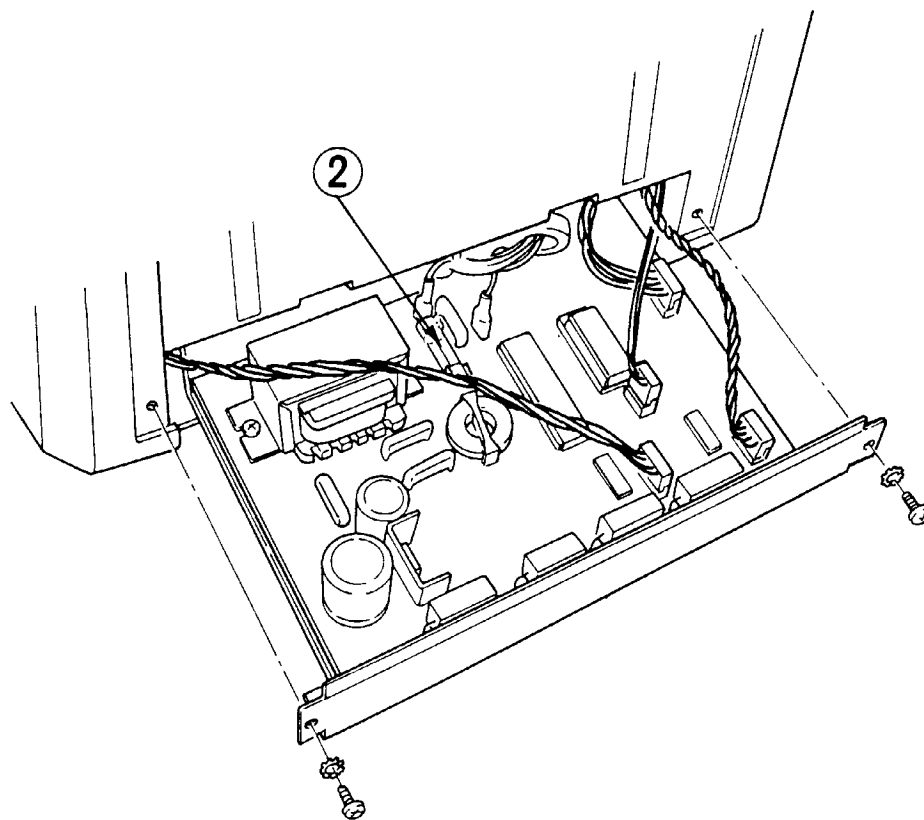

FIGURE 4-6. FUSE REPLACEMENT
2. Remove fuse from circuit board (see Figure 4-6).